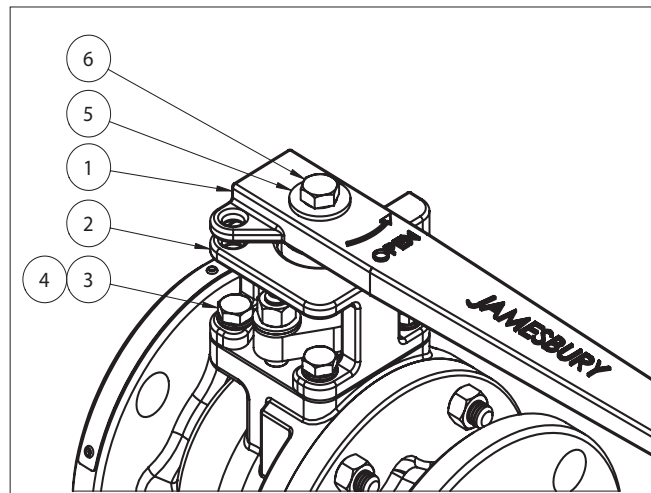

Figure 11. Handle Assembly
- Lower the handle bracket (2) straight down in line with the valve stem until it is flat on the valve bonnet, and all four mounting holes align with tapped holes on the valve (see **Figure 11**).
- Insert the four bracket screws (3) and lock washers (4) into the mounting holes and thread into the valve until finger tight only.
- Aligning the slot in the handle with drive on the stem, lower handle (1) straight down in line with the valve stem until it is completely engaged. If the handle (1) interferes with the handle bracket (2) rotate the handle bracket slightly to remove interference. DO NOT rotate stem!